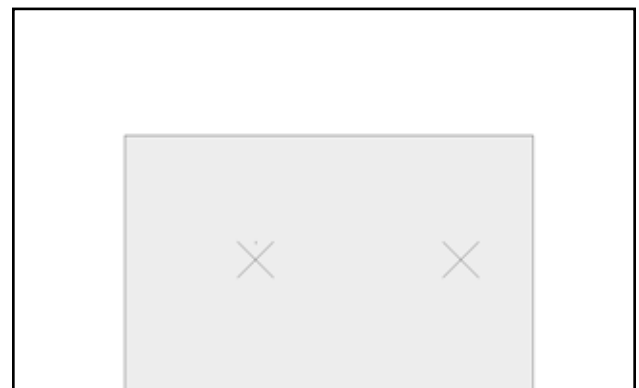

Figure 3
3. Transfer measurement to installation area (Figure 3)